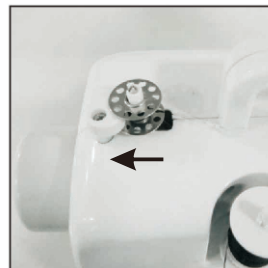

Fig. 22
3. Put the bobbin on the bobbin winder pin, wind thread clockwise around bobbin several times. (Fig.22)